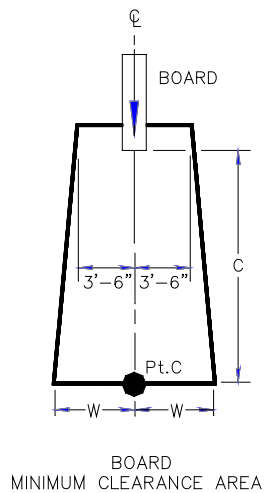

FIG. 3
- B. The minimum clearance area in front of a properly installed diving board on an inground swimming pool is a minimum distance of three feet six inches (3'-6") on either side of the board's centerline as shown in **FIG. 3**. Pt. C extends a minimum distance of "C" from the tip end of the board as shown in **FIG.3**. The width distance "W" on either side of Pt. C is given in **CHART 1** and shown in **FIG.3**.
See Article 5 contained in ANSI/APSP/ICC-5 2011 STANDARD FOR RESIDENTIAL INGROUND SWIMMING POOLS and refer to FIGURE 3 and Table 1 for Minimum Water Envelope Dimensions AB, BC and Width at Point C.